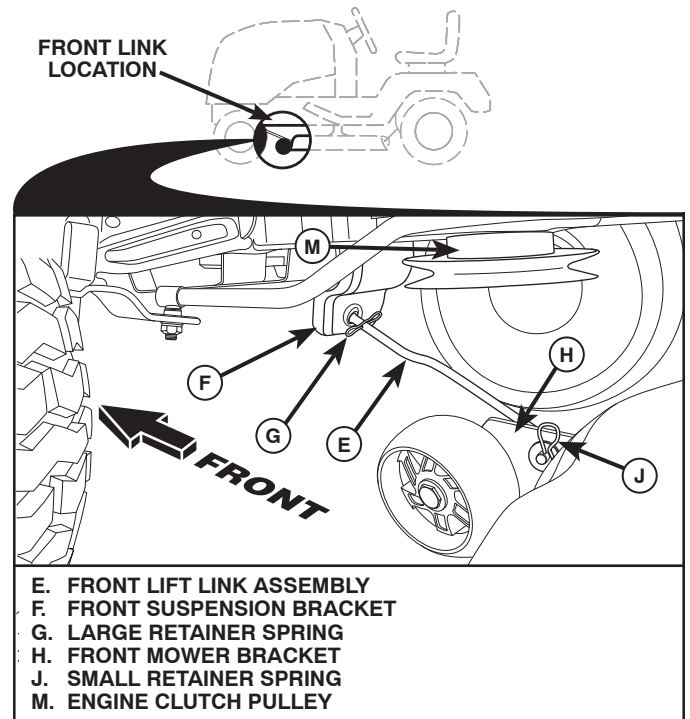

Fig. 36
8. ATTACH FRONT LINK (E) (See Fig. 36)
- From front of tractor, insert rod end of front link (E) through front hole in tractor front suspension bracket (F).
- Move to left side of mower and insert large retainer spring (G) through hole in front link (E) behind front suspension bracket (F).
- Insert other end of link (E) into hole in front mower bracket (H) and secure with washer and small retainer spring (J).